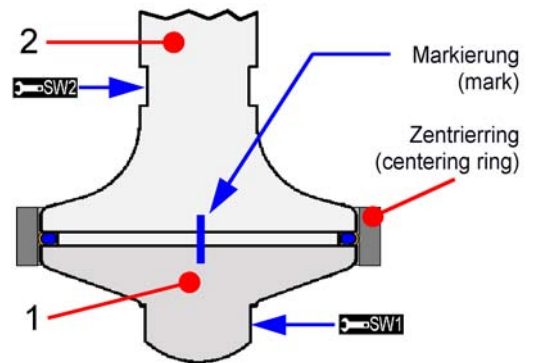

Fig. 6
- Screw together piston plate (1) and piston (2) manually to metallic stop position without sealing ring and carry out colour marking (Fig. 6/ page 10).
- Once again screw off piston plate (1) from piston (2).
- Push sealing (D1) on piston (2) and manually screw the piston plates (1) into the pistons (2)
- For centring sealing (D1) on piston (1), the centring ring has to be placed as shown in Fig. 6/ page 10.
- Stretch construction group 1 at flat valve (SW1) with soft braces in bench vice and screw in piston (2) over flat valve (SW2) until marking..